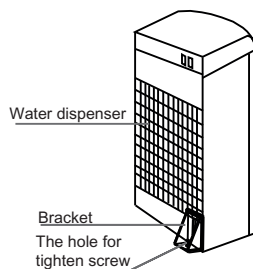

Fig. 6
3. Recommend to install the anti-tilt bracket at the back side of this water dispenser to prevent the dispenser from falling down which could cause injury.(Fig. 6)
Installing the floor Bracket kit(Fig.6)